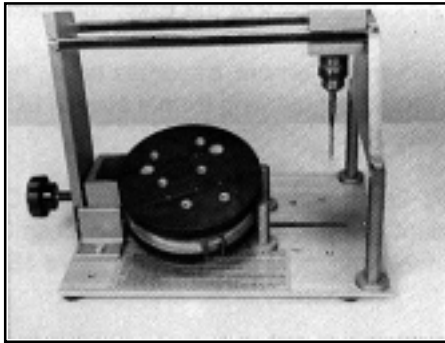

FIGURE 10 – END PLATE WITH HOLES DRILLED
5.06 If additional holes are needed, repeat preceding steps 4.00-5.05. (Figure 10)